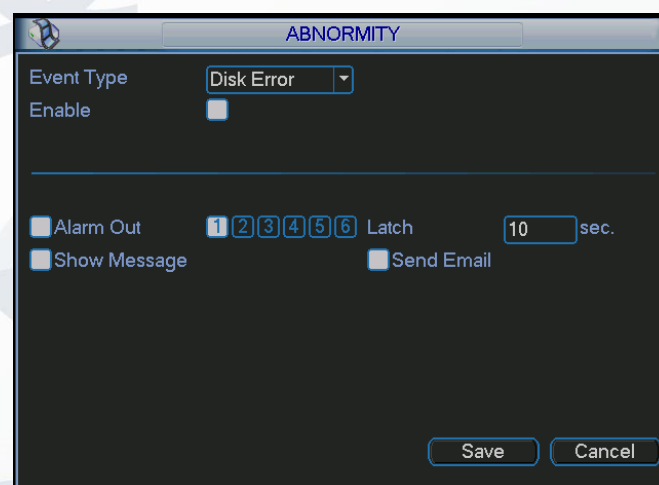

Figure 5-46
- **Alarm set:** Click alarm set button, the interface is shown as below. See Figure 5-46. (This interface is just like the abnormality setup). Please refer to chapter 5.5.2 for detailed information.